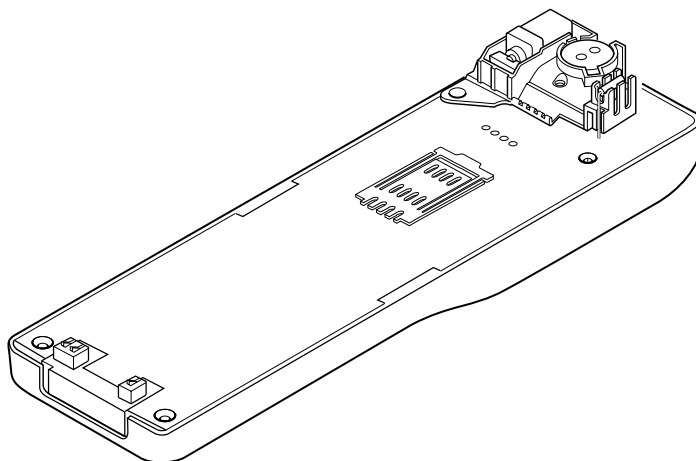

Figure 3: PCB assembly removal
3. (Figure 3) To remove the PCB assembly, gently lift the lower end of the PCB assembly whilst pulling apart the sides of the telephone case. Place the PCB assembly onto a flat work surface.